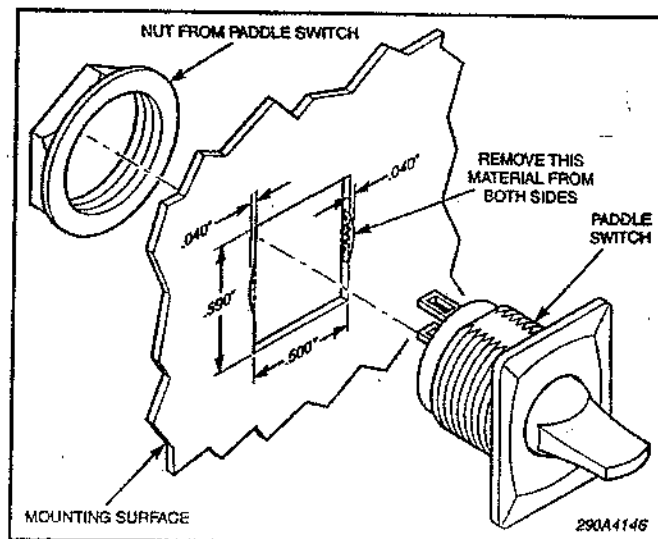

Figure 1.
5. See figure 1. Using a file or Dremel tool, remove approximately 0.040" material on each vertical side of the paddle switch opening. Be sure to remove any burrs or sharp points. Also, use an air compressor to blow out any metal filings.